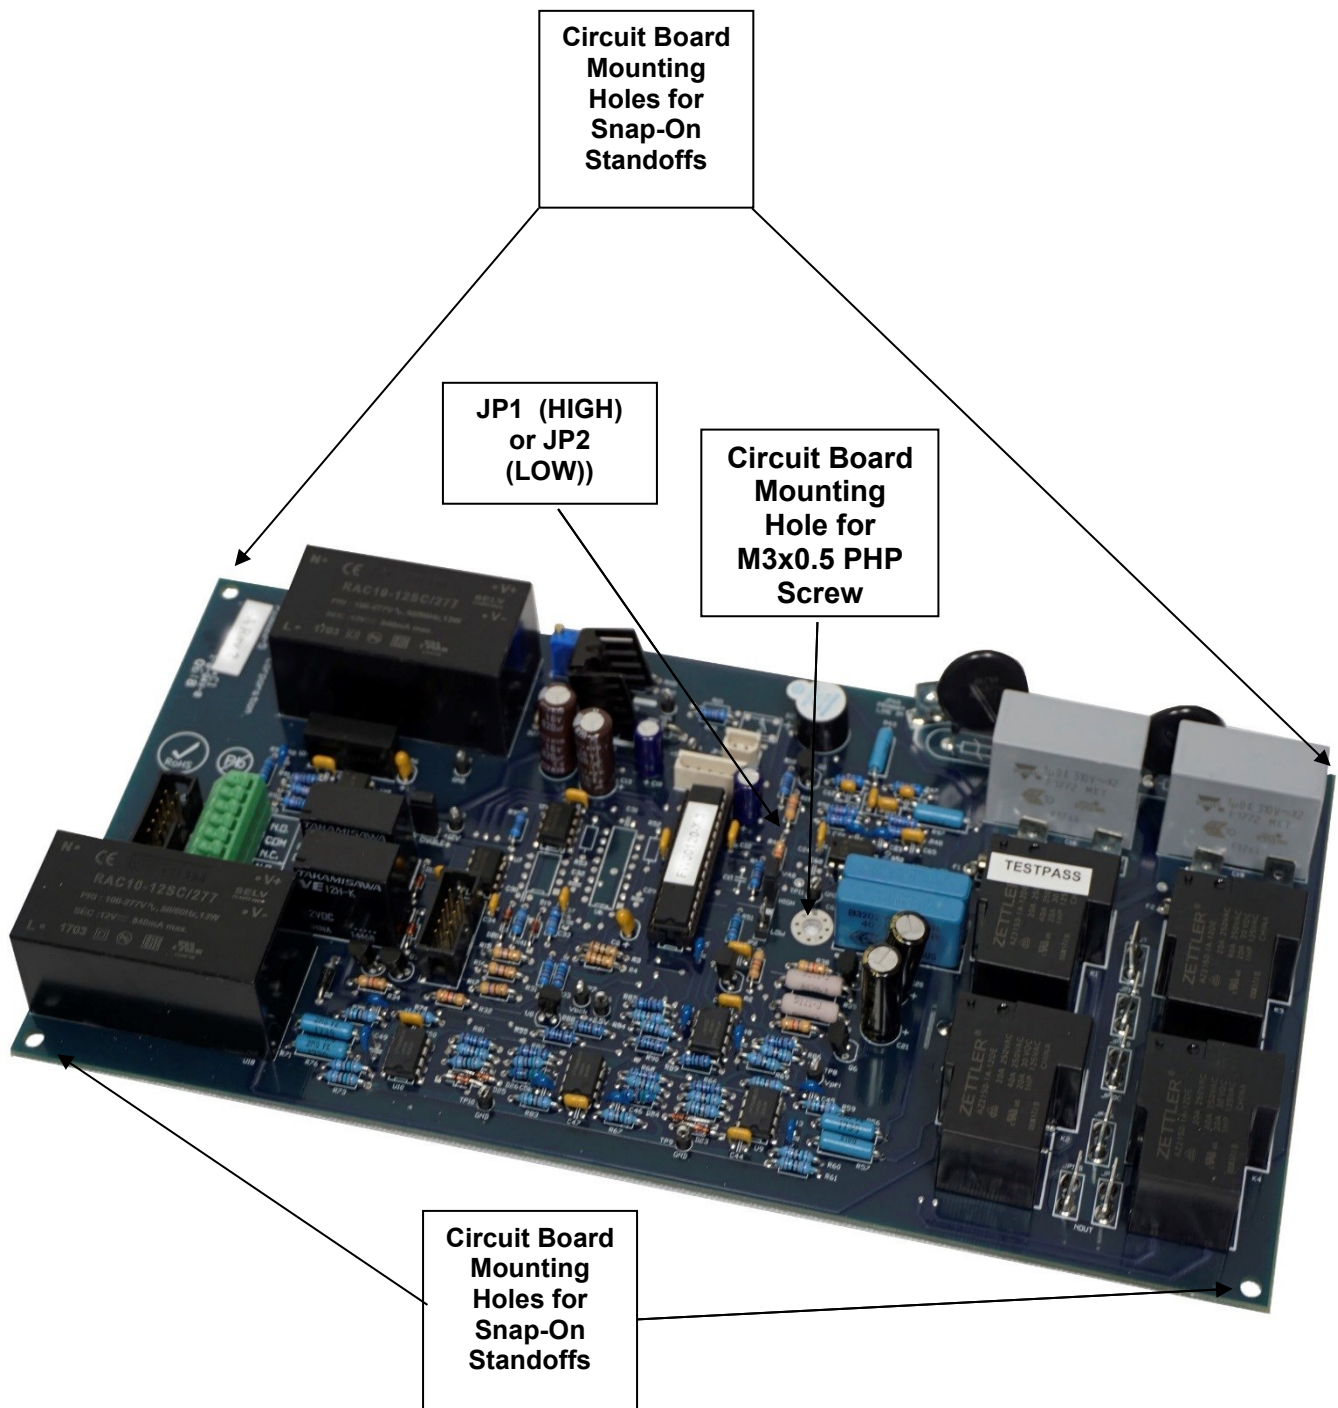

Figure 7: PZ00120-5 Main Control Circuit Board Assembly for ATS-500-2000, -3000, -4000, -5000, -6000 and -7000 models
2.2.1 Main Control Circuit Board Assemblies (See Figures 7 and 8)
- 3.44 Locate the jumper at JP1 (HIGH) or JP2 (LOW). See Figures 7 or 8.